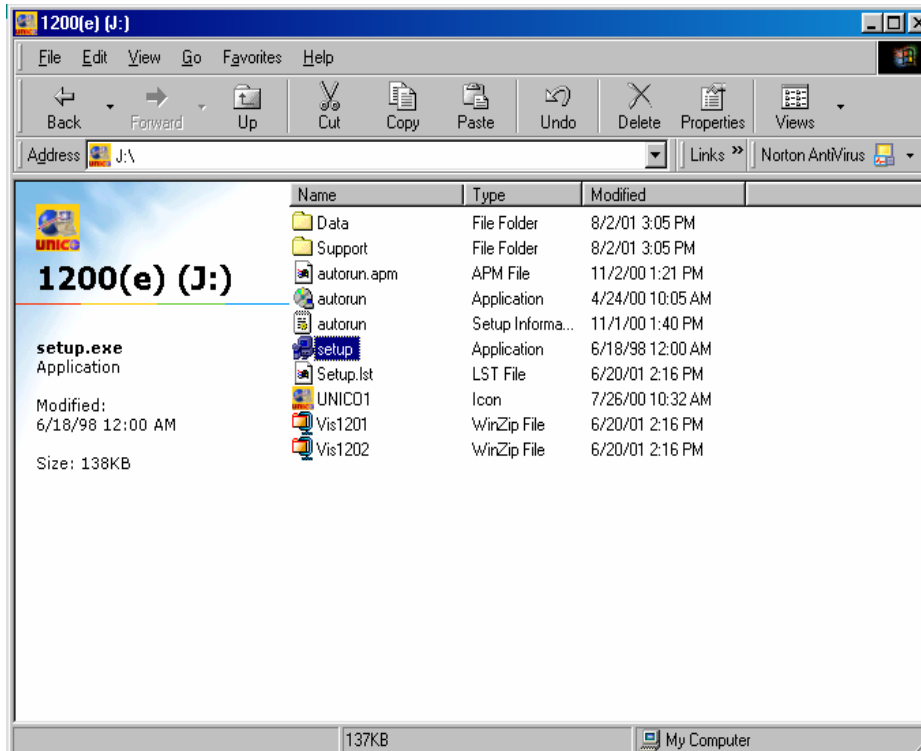

Figure-4 Click "setup.exe"
- Step 4: Click **setup.exe** as Figure-4 shown or click **SETUP** shown in Figure-1